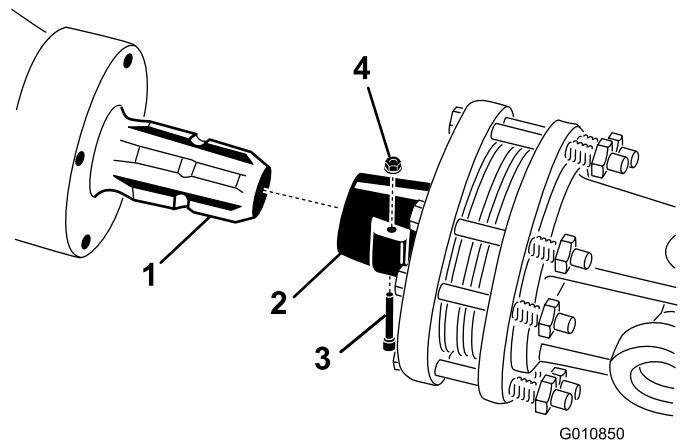

Figure 17
- Remove the pin and nut from the PTO shaft (Figure 17).
- Connect the clutch end of the PTO shaft to the aerator gearbox input shaft with pin and nut previously removed (Figure 17). The pin can only be inserted one way.